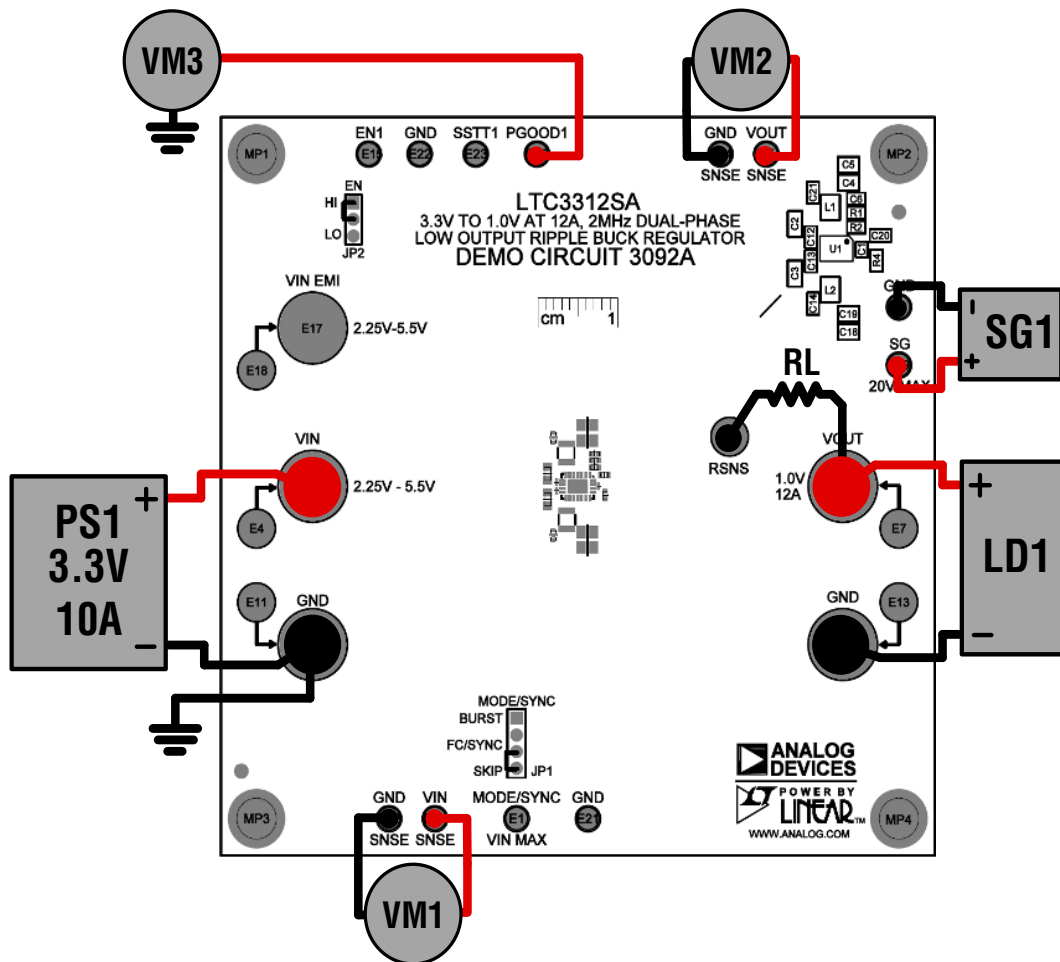

Figure 2. Test Setup for DC3092A Demo Board
Refer to Figure 2 for the proper measurement equipment setup and follow the procedure below:
1. Connect PS1, LD1, VM1, VM2 and VM3 as shown in Figure 2. If the input EMI filter is desired, connect the input power supply to VIN EMI and GND.
8. To test the transient response with a base load, add the desired resistor to produce a minimum load between VOUT and RSNS1 turrets (RL shown on Figure 2). Note that the total load resistance will be RL plus R11 (20mΩ). Adjust a signal generator with a 10ms period, 10% duty cycle and an amplitude from 1V to 2V to start.